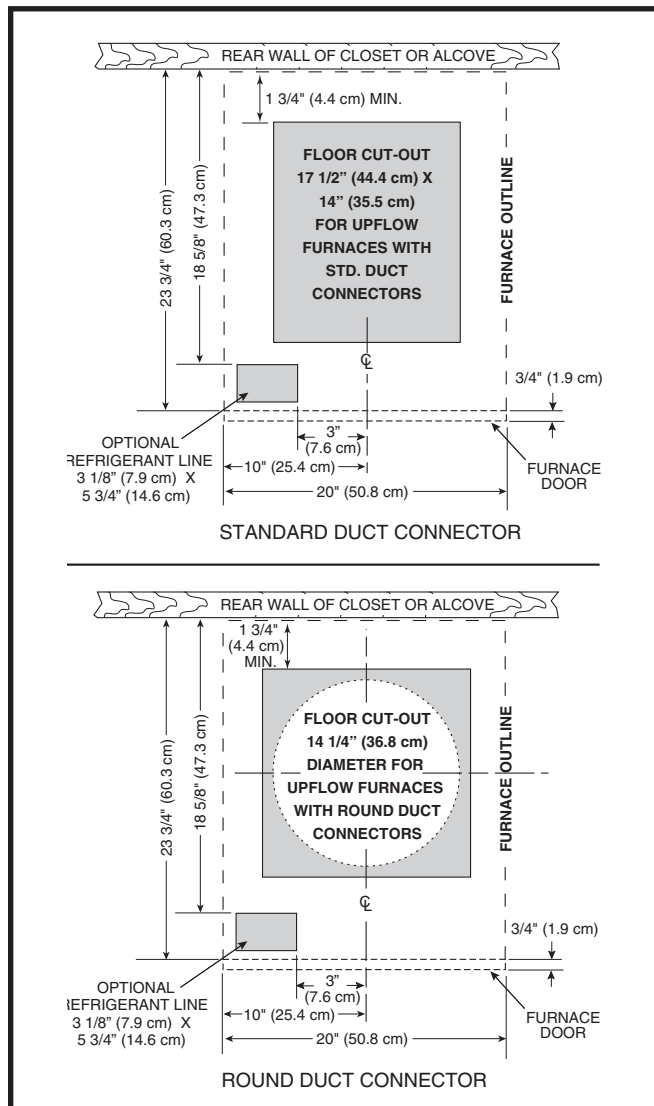
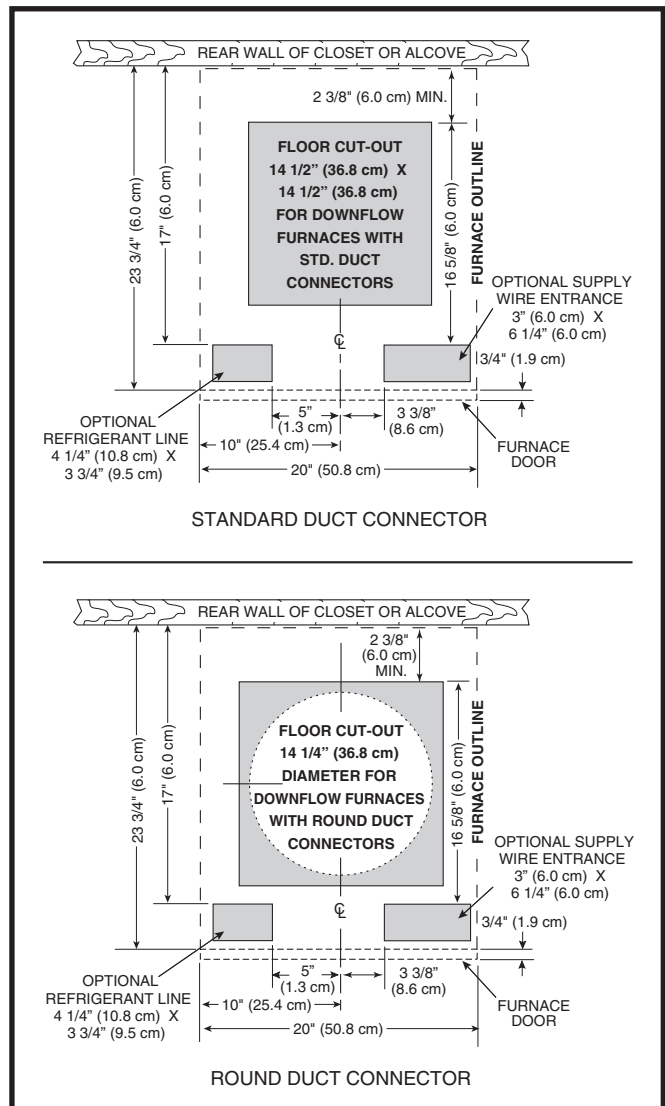

Figure 5. Cut-Out Dimensions for Upflow Appliances
Figure 6. Cut-Out Dimensions for Downflow Appliances
Floor cut-outs must be carefully located to avoid misalignment of the Appliance and air duct. Standard and round cutouts for upflow Appliances are shown in Figure 5 (page 7). The cutouts for downflow Appliances are shown in Figure 6 (page 7).
2. Using the centerline as a starting point, draw the rest of the duct cut-out to the dimensions shown in Figure 5 or Figure 6.
- a. Mark floor openings as shown in Figure 5 \(page 7\). Provide minimum clearances at rear and left side walls of closet for installation of Appliance and wiring.